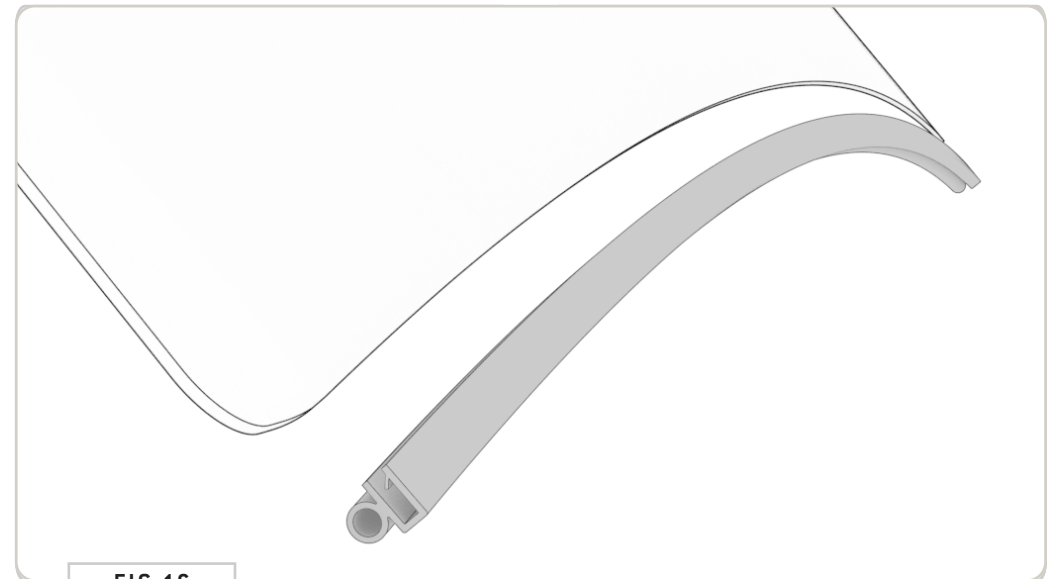

FIG 16
**4.5 Attach Trim Gasket:** Complete the assembly by attaching the **Trim Gasket (FIG 16)**. Make sure that the "bulbed" side of the trim is facing the Crossbar, as that will be the part that sits against the van.